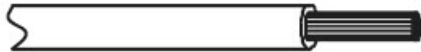

Fig. 61 —Stripping The Wire
2. Strip a suitable length of the insulation layer as shown in Fig. 61.